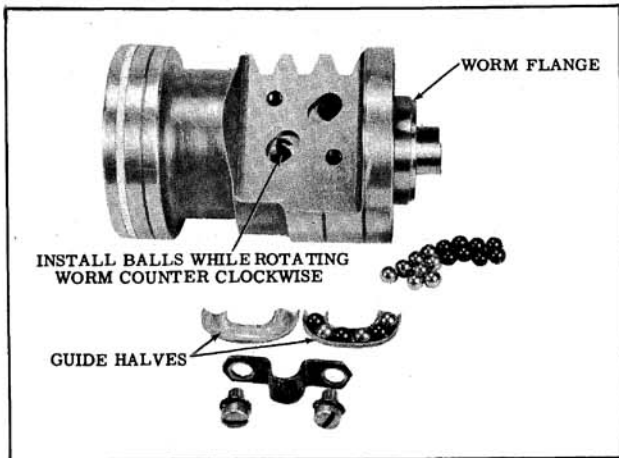

Fig. 8-60 Installing Balls in Rack-Piston
- Turn the worm until the worm groove is aligned with the lower ball return guide hole. (Fig. 8-60)